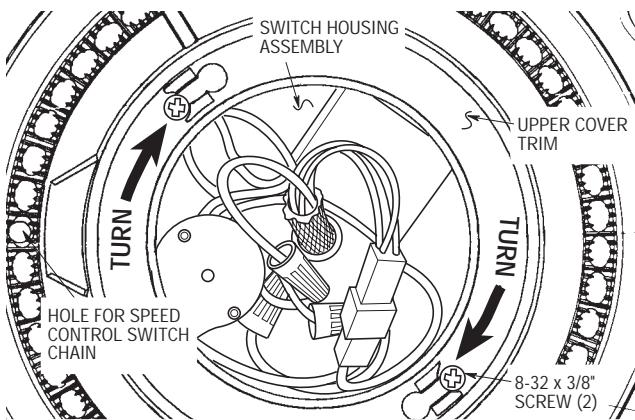

Figure 10 LOOKING UP INTO SWITCH HOUSING ASSEMBLY
15. Turn fan assembly over so the bottom is oriented up. Partially install two 8-32 x 1/2" screws (supplied) in the switch housing assembly (Figure 10). Slip the speed control switch chain through the hole in the upper cover trim, then position the cover trim on the switch housing assembly so that the two screws protrude through the key hole slots in the cover trim. Turn the cover trim fully clockwise and then securely tighten the two 8-32 x 1/2" screws.